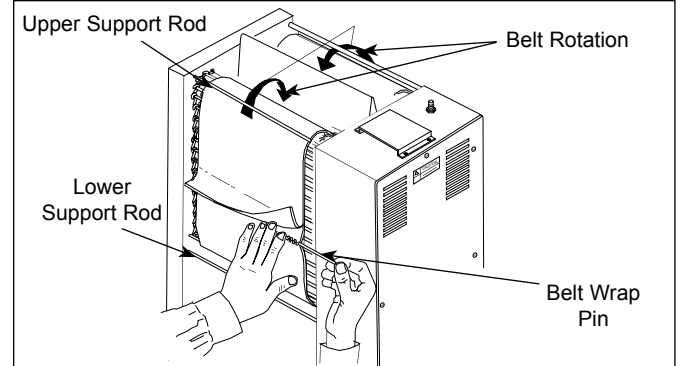

Figure 9. Installing Belt Wrap
6. Install the new Belt Wrap(s) around the Conveyor Belt Chains inside the rods with the “zipper” flap exposed and hanging down (Figures 9 & 10).